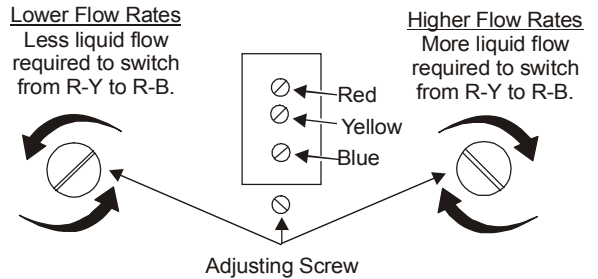

Figure 12: Flow Rate Adjustment
3. Turn the adjusting screw **clockwise** to **raise** the flow rate. Turn the adjusting screw **counterclockwise** to **lower** the flow rate. See Figure 12.